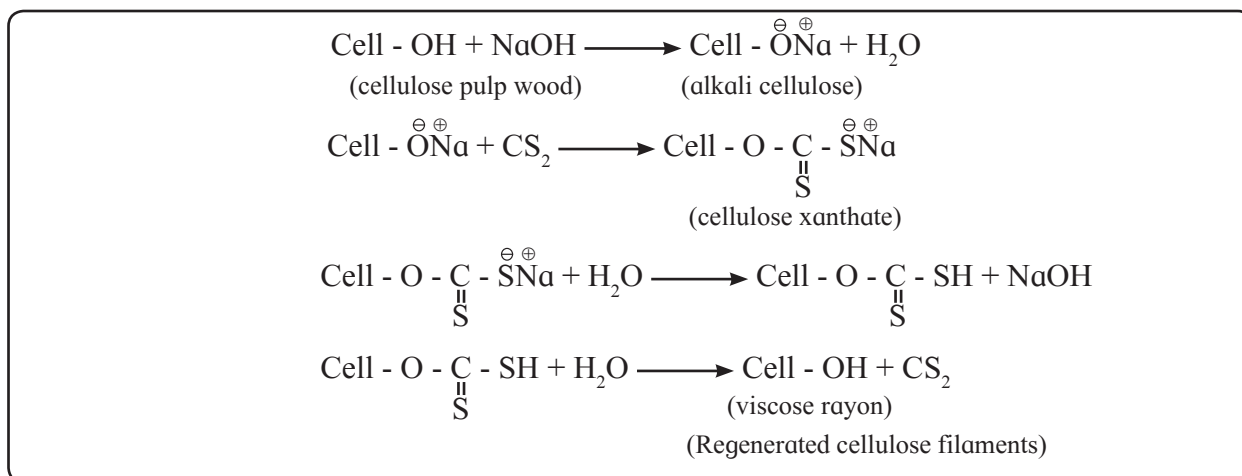

Fig. 15.7 : Formation of viscose rayon
15.3.10 Viscose rayon : Viscose rayon is a semisynthetic fibre which is regenerated cellulose. Cellulose in the form of wood pulp is transformed into viscose rayon. Cellulose is a linear polymer of glucose units and has molecular formula $(\text{C}_6\text{H}_{10}\text{O}_5)_n$. A modified representation of the molecular formula of cellulose Cell-OH , is used in the reactions involved in viscose formation, as shown in Fig. 15.7. Cellulose in the form of wood pulp is treated with concentrated NaOH solution to get fluffy alkali cellulose. It is then converted to xanthate by treating with carbon disulphide. On mixing with dilute NaOH it gives viscose solution which is extruded through spinnerates